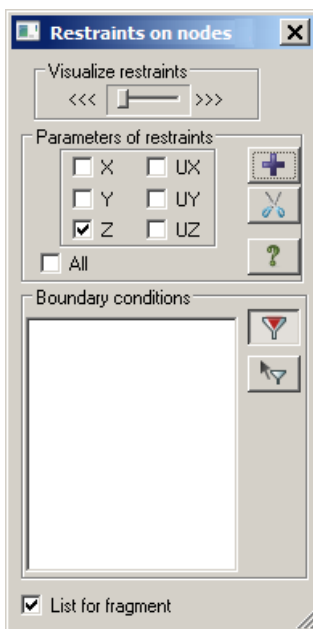

Figure 19.9 **Restraints on nodes** dialog box
- ⇒ In the **Restraints on nodes** dialog box (see Fig.19.9) specify directions along which displacements of nodes are not allowed (Z). To do this, select appropriate check boxes.